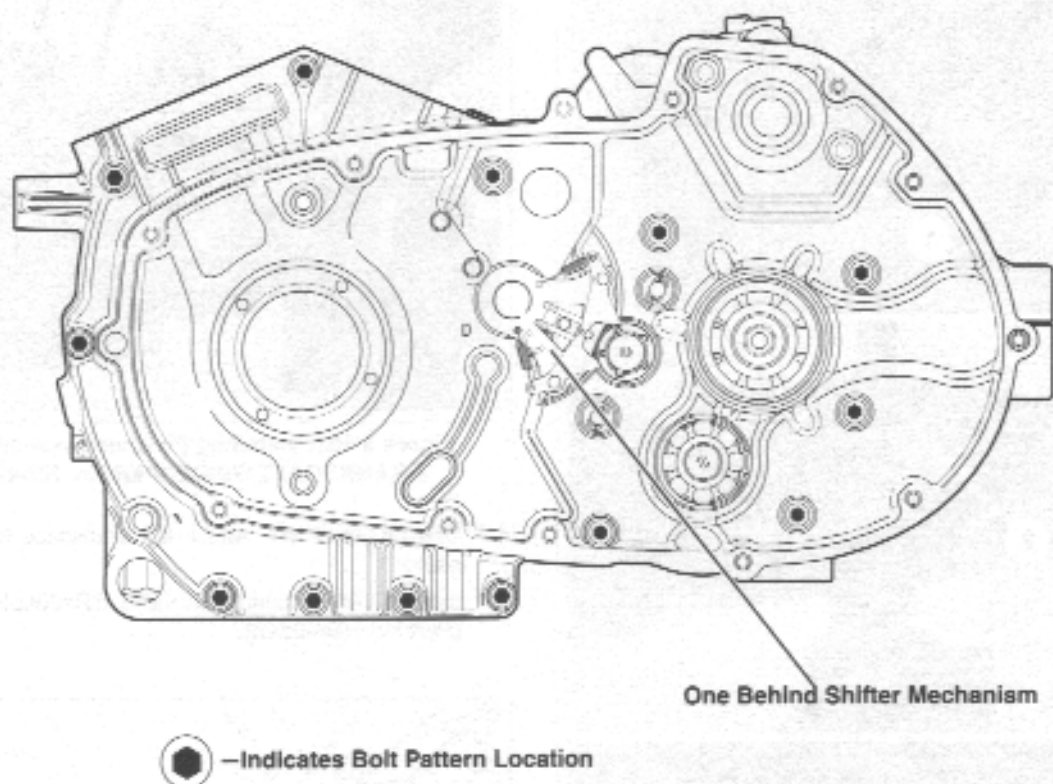

Figure 3-153. Crankcase Fasteners
7. See Figure 3-153. Assemble crankcase halves together.